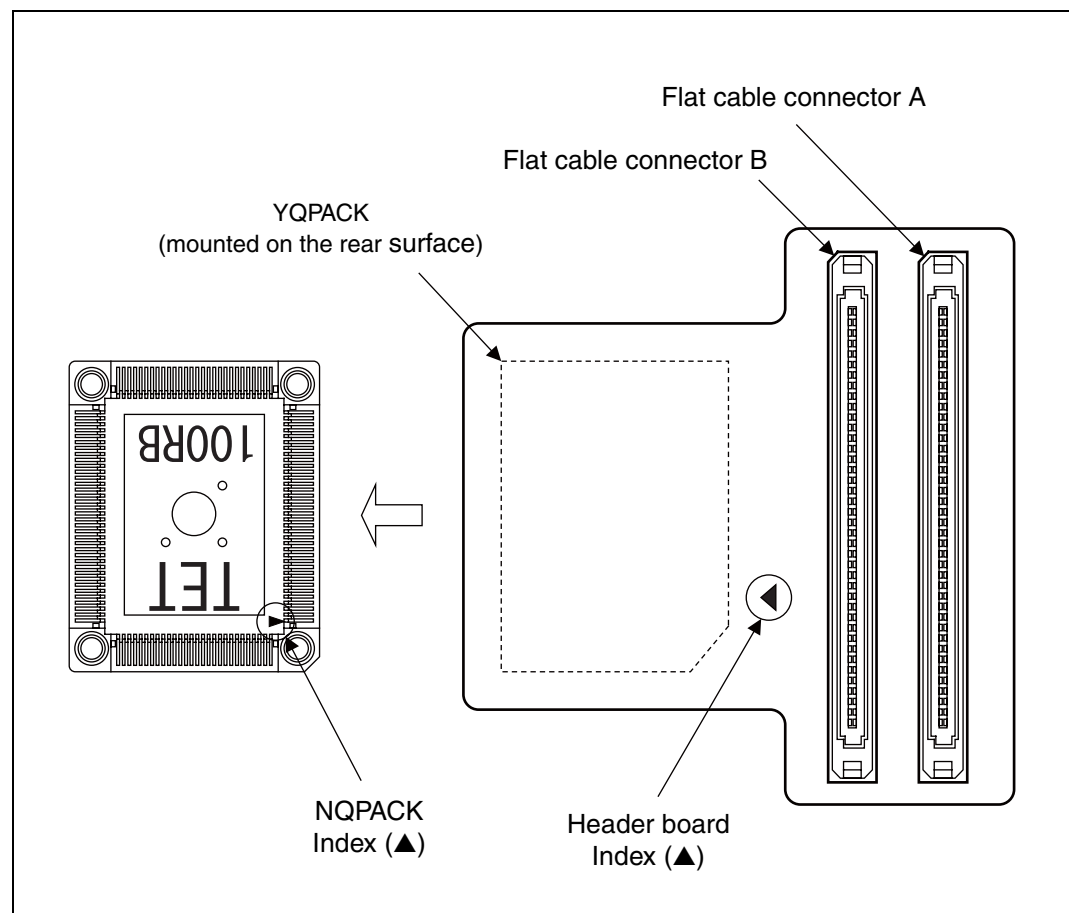

Figure 3 Index Position
1. To connect the header board to the user system, align pin 1 indicated by the index mark (▲) on the NQPACK mounted on the user system with the index mark (▲) on the header board and then insert the header board (see Figure 3).